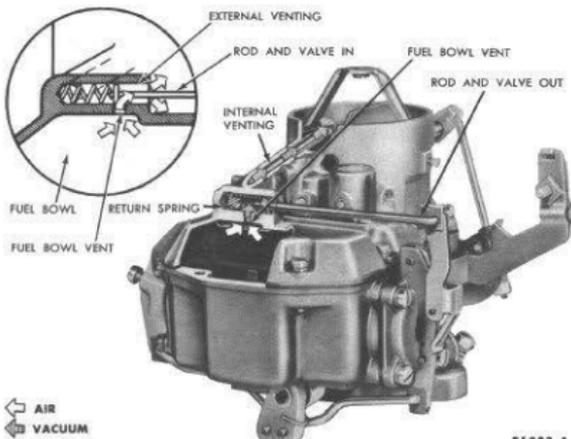

FIG. 34—Fuel Bowl Venting System
**FUEL BOWL VENT SYSTEM.** The fuel bowl requires venting (Fig. 34) to provide proper operation for the various systems. Fuel vapors may form in the fuel bowl when a hot engine is stopped, idling, or operating at very low speeds. By venting the fuel bowl to the atmosphere, engine performance is improved. At higher engine speeds, venting to the carburetor air horn prevents cali-